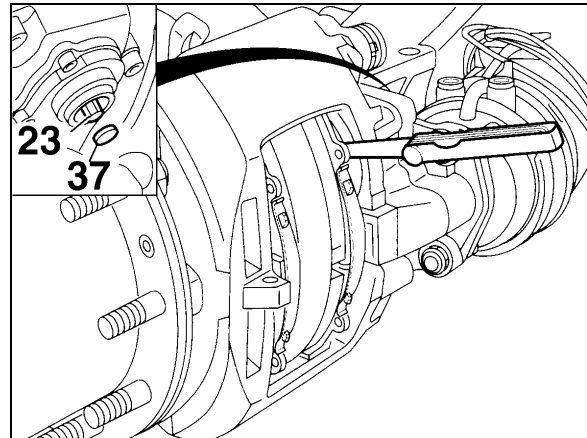

FIGURE 27: RUNNING CLEARANCE 12116
- a) Remove cap (37, Fig. 27).